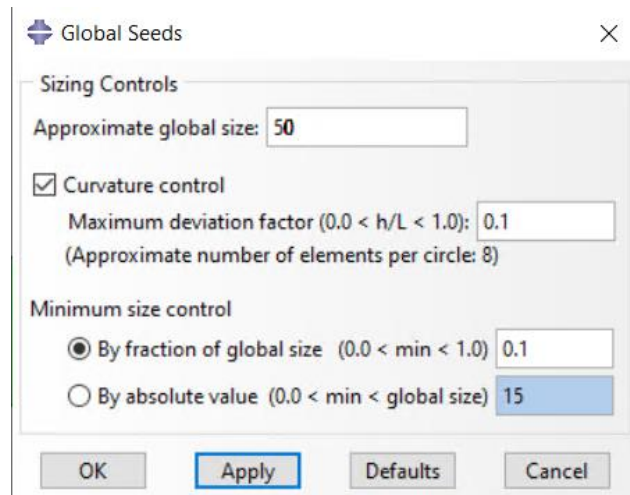

Figure 2-24 – The Global Seeds dialog box.
2. The **Global Seeds** dialog box appears, Figure 2-24. The default global element size is based on the size of the part.